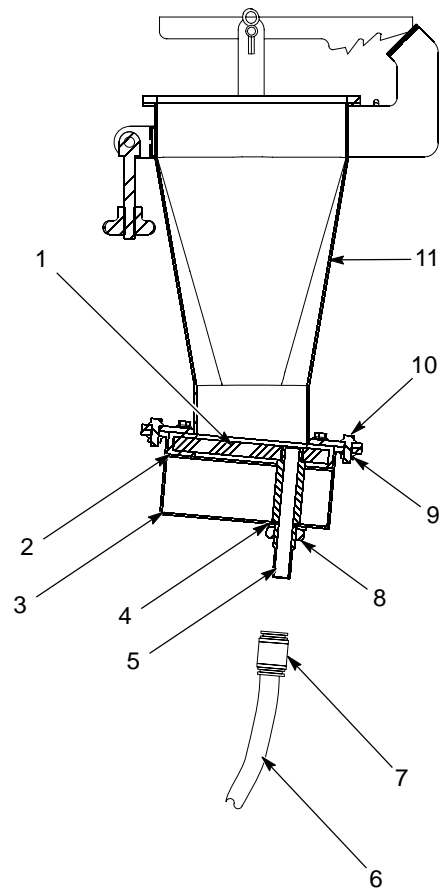

Figure 3-5 Transfer Pan Cleaning
1. See Figure 3-5. Disconnect the 16-mm powder tubing (6) from the bulkhead union (7). Remove the bulkhead union from the discharge tube (4).
2. Remove the plenum (3) from the transfer pan (11) by removing the eight bolts (10) and nuts (9).
3. Remove the jam nut (8) and sealing washer (4) from the discharge tube. Use two wrenches: one on the flats of the discharge tube and the other on the jam nut.
4. Lift the fluidizing plate (1) with gasket (2) and discharge tube out of the plenum. Unscrew the discharge tube from the fluidizing plate.
1. See Figure 3-5. Install the discharge tube (5) into the threaded side of the fluidizing plate (1) until the discharge tube is either
2. Install the fluidizing plate, gasket (2), and discharge tube assembly into the plenum (3).
3. Install the sealing washer (4) and jam nut (8) onto the end of the discharge tube. Tighten the jam nut snugly using two wrenches: one on the flats of the discharge tube and the other on the jam nut. Do not over tighten the jam nut.
4. Install the plenum assembly onto the bottom of the transfer pan (11) using the eight bolts (10) and nuts (9).
5. Install the bulkhead union (7) onto the discharge tube and connect the 16-mm powder tubing to the bulkhead union.